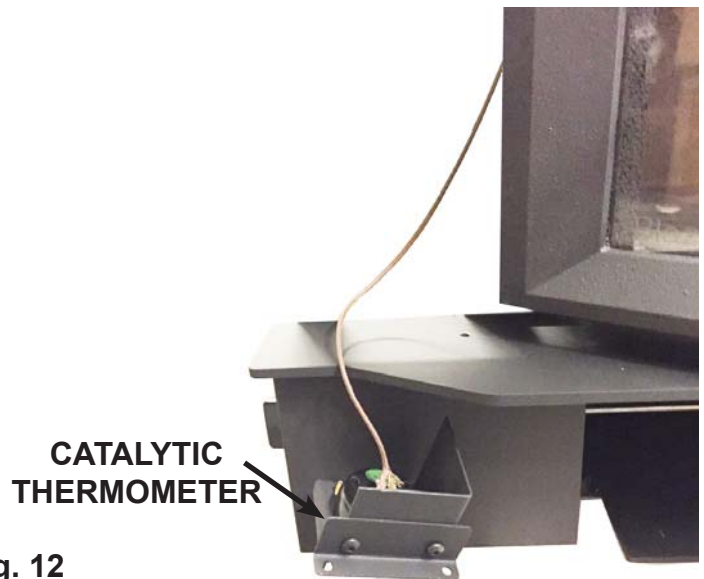

Fig. 12
1. Position catalytic thermometer across ash shelf front. (Fig. 12)